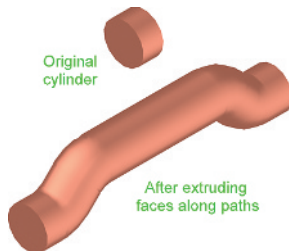

Fig. 18.5 First example – **Extrude faces tool**
First example – Extrude faces tool (Fig. 18.5)
8. Render the resulting edited 3D model (Fig. 18.5).